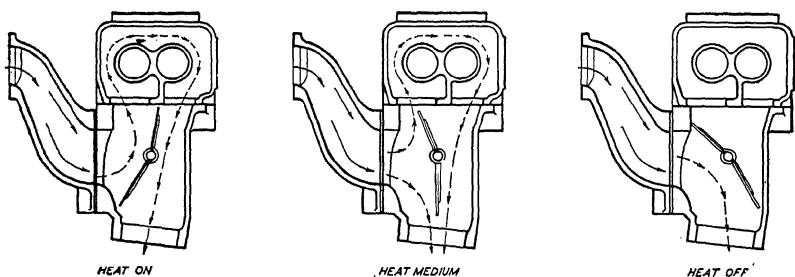

Fig. 14. Buick Heat Control Valve Operation
*Operation of the Buick Heat Control.* The Buick intake manifold feed control system utilizes the exhaust gases of the engine to insure complete vaporization with a minimum consumption of fuel. This result is accomplished by surrounding the center portion of the intake manifold with a heat jacket, Fig. 14, which is connected to the exhaust system. As the hot gases pass from the exhaust manifold into the heat controlled valve body, they strike the heat controlled valve and are lifted upward into the heat jacket around the intake manifold. The gases next pass out of the heat jacket
back into the heat valve body, but on the opposite side of the heat controlled valve. Thus, the heat controlled valve acts both as a valve and as a partition. The amount of heat delivered to the heat jacket is automatically controlled by means of a thermostat which governs the quantity of exhaust gases and, consequently, the amount of heat by determining the position of the heat controlled valve. As shown in Fig. 14, the greatest amount of heat is available when the valve is in the "heat-on" position. The amount of heat decreases to the "heat-medium" position and the "heat-off" position. The heat control valve is so designed that when the engine is operated under